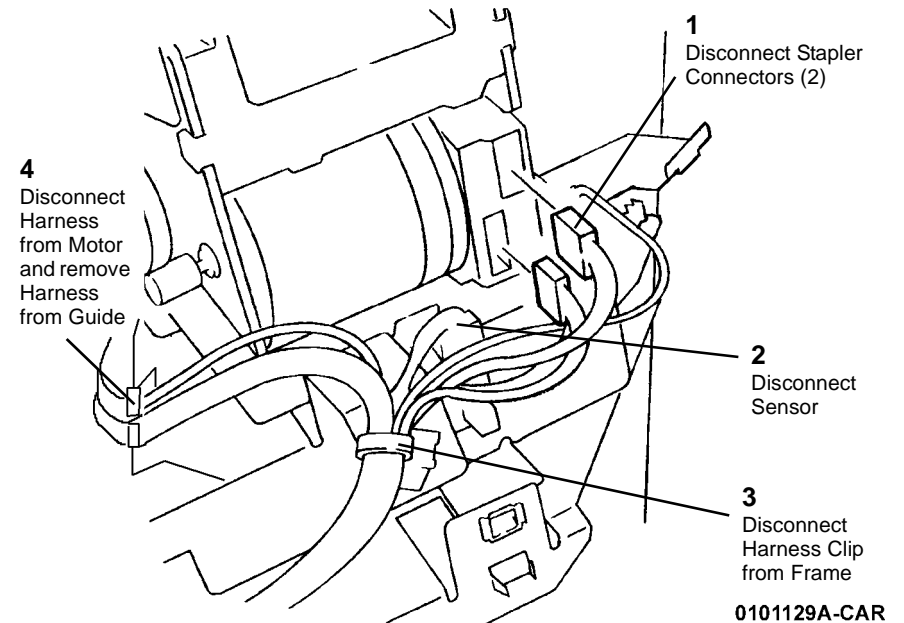

Figure 1 Removing Harness from Stapler
2. Remove Harness from Stapler (Figure 1).